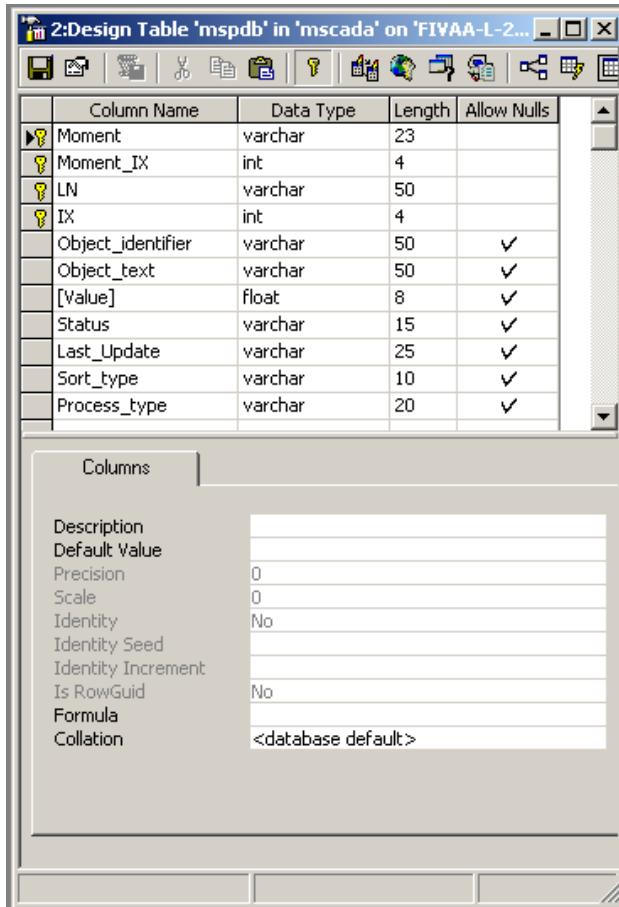

Figure 27: Defining table for the cyclical recording
2. Name the table columns for the database as shown in Figure 27.